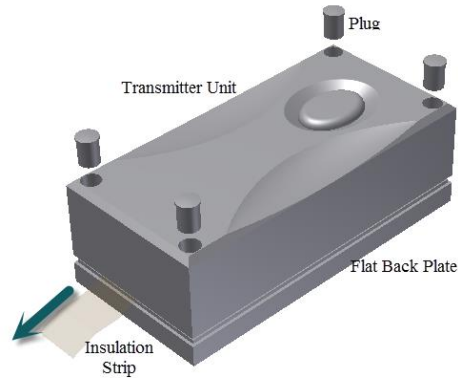

Figure 4
1. Take the transmitter unit with the pre-assembled flat back plate and pull the insulation strip out of the assembly to activate the transmitter battery (figure 4).